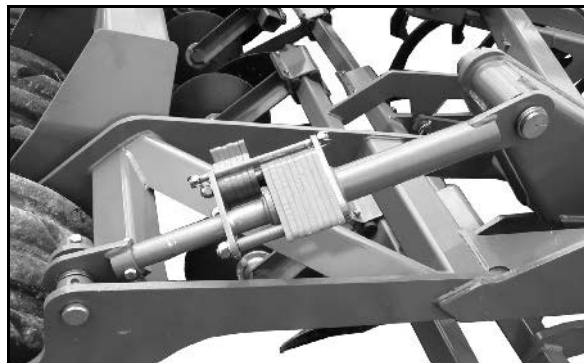

Fig. 49
- Using the left and right spacer elements on the rear roller (Fig. 49),